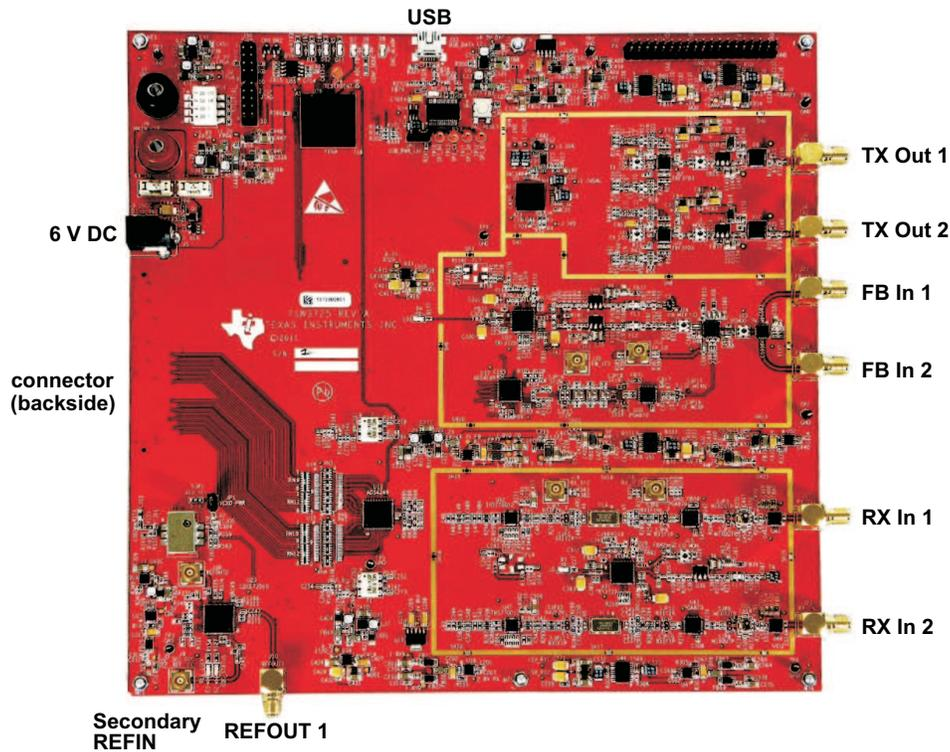

Figure 2. TSW3725EVM
Figure 2 shows the TSW3725 without RF shields over the Transmit (TX), Feedback (FB), and Receive (RX) signal chains. Shown in this figure are the locations for several connectors used to operate the TSW3725. The USB connector is used in Stand-Alone mode, which is described in following text. The J8 connector can either connect to the TSW3725 adaptor boards or the small-cell basestation platform (SCBP). The supply voltage can be connected from the 6-Vdc connector or the banana plug connectors shown in Figure 2, or it can be supplied directly from the TSW3725 adaptor or SCBP boards. The primary 30.72-MHz reference for the TSW3725 is supplied from the TSW3725 adaptor board or the SCBP. However, a connector option on the TSW3725 for a secondary reference is shown in Figure 2.